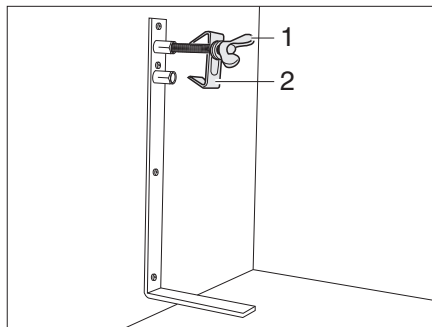

Fig. 189 Spare wheel support
- Loosen the screw (Bild 189,1) and remove the centring device (Bild 189,2).